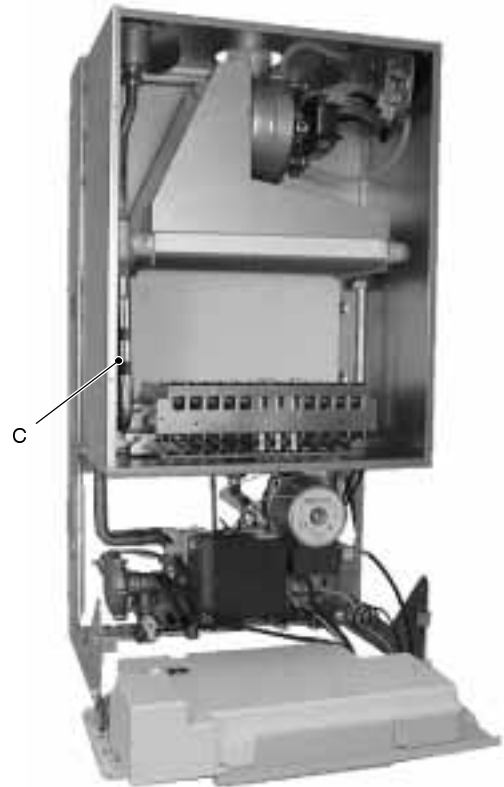

fig. 80
- the temperature probe C which is fitted on the outlet pipe of the main heat exchanger (fig. 80)
Verify the soundness of the fitting between the main circuit pipe and the temperature probe C (fig. 80).